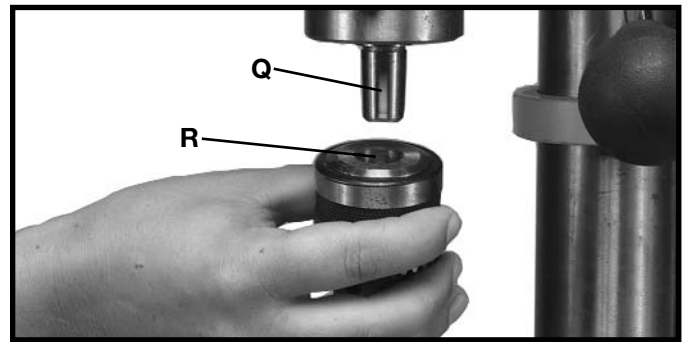

Fig. 15
10. **IMPORTANT:** Make certain the spindle taper (Q) Fig. 15, and tapered hole in chuck (R) are clean and free of any grease, lacquer or rust preventive coatings. **NOTE:** Household oven cleaner can effectively remove any substance from the spindle and chuck; however, carefully follow the manufacturer's safety rules concerning its use.